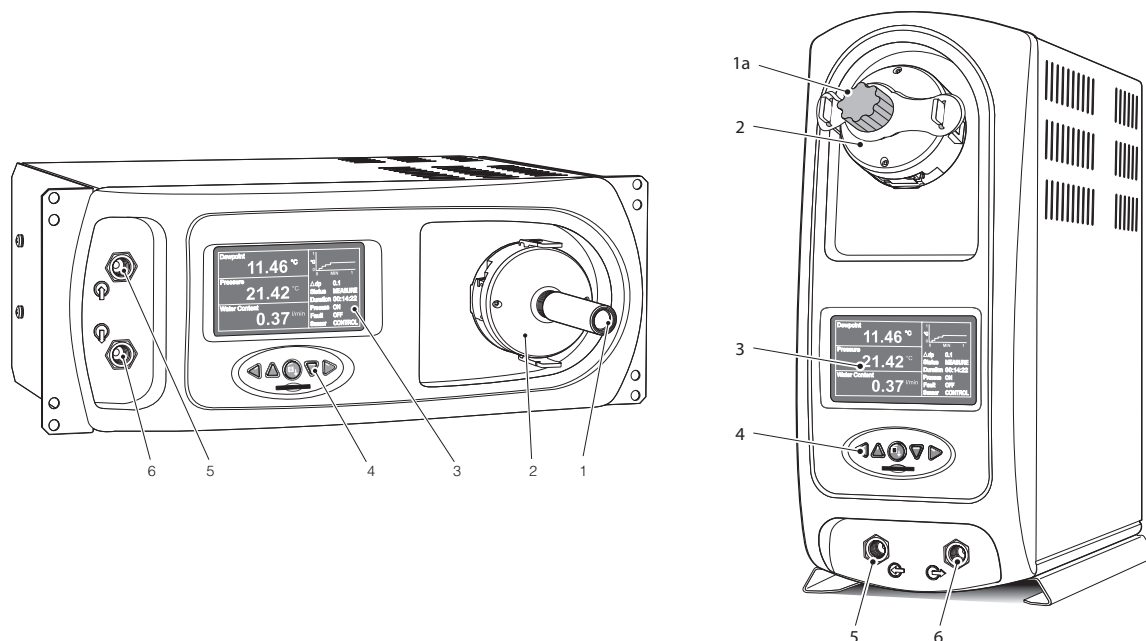

Figure 5 Front Panel
*Figures 5 and 6* show the layout of these controls for both the rack mount/horizontal and vertical versions of the instrument. Tables 1 and 2 detail the controls and indicators and the function key operations.